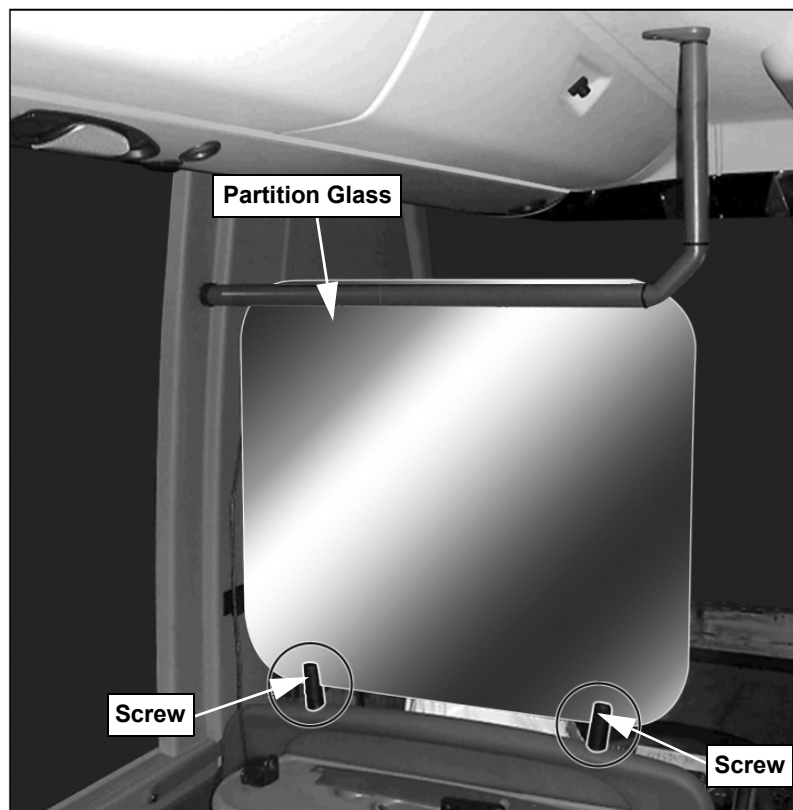

Figure 1-1 Lower Mounting Screws
1. Remove the mounting screws and rubber washers from the lower fastening point. See Figure 1-1.
2. Install the lower mounting screws with rubber washers. Reference Figure 1-1.